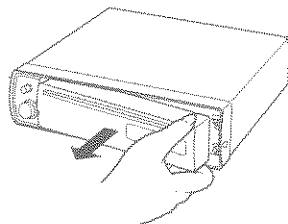

Fig. 13
- 2. To remove the front panel, pull its right-hand side toward you. (Fig. 13)